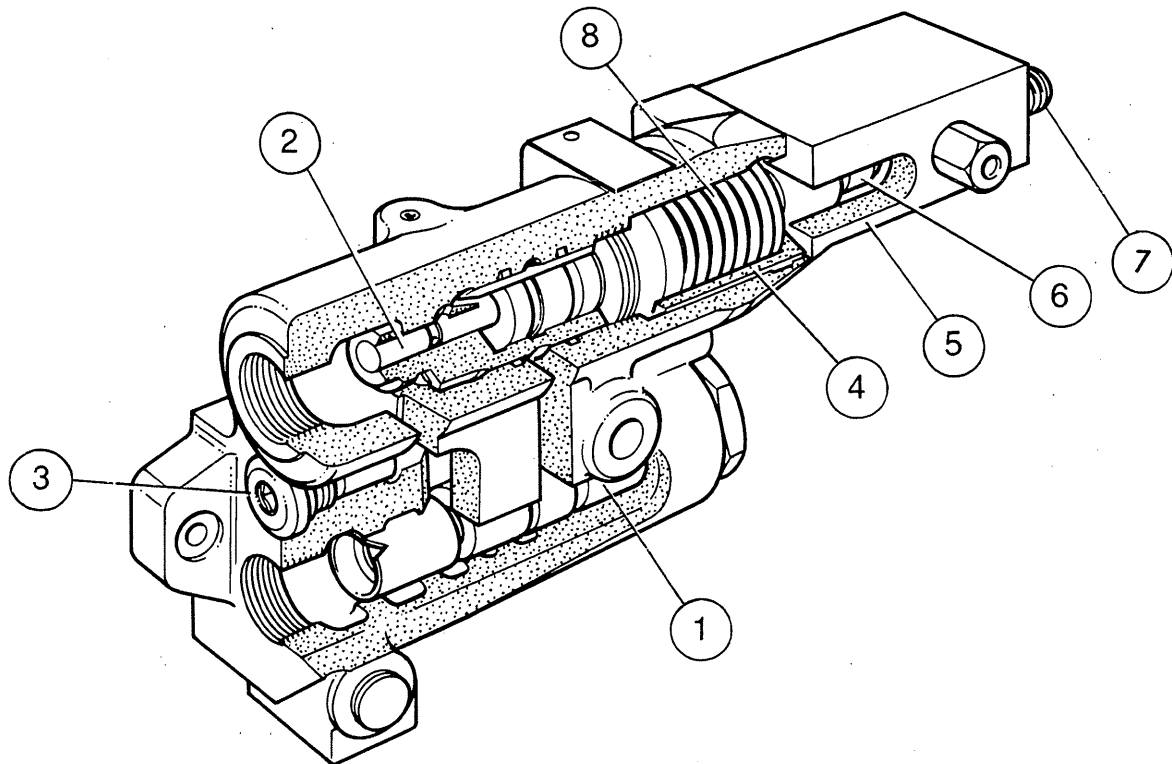

Fig. 1
**Description of the trailer braking valve (Fig. 1)****Flow control valve (1)**